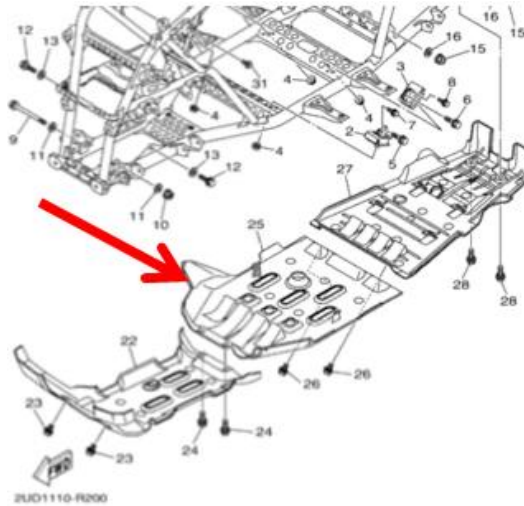

Figure 2
1. Remove the middle plastic skid plate below the engine as shown in Figure 2.